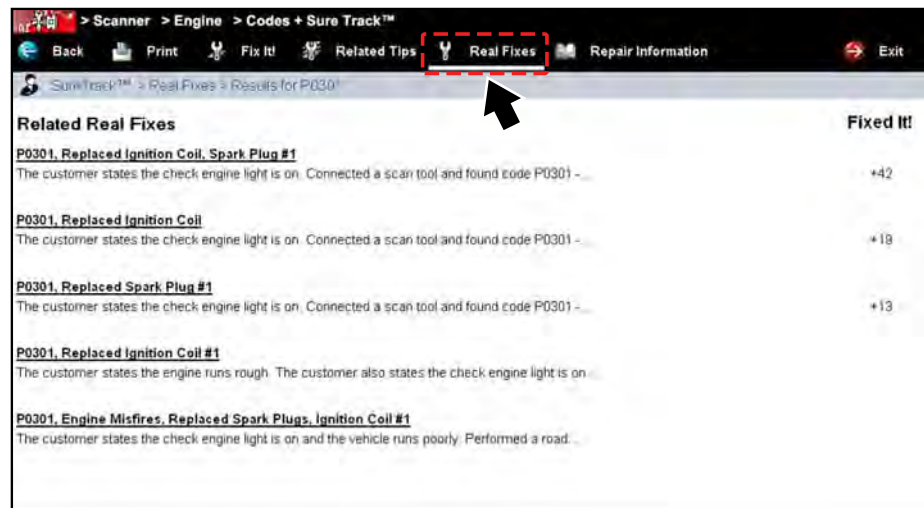

Figure 14-6 Typical - Real Fixes Screen
**Real Fixes**—opens a list of tips related to the current DTC that have been gathered from actual shop repair orders and presented in a Complaint, Cause, Correction format (Figure 14-6).